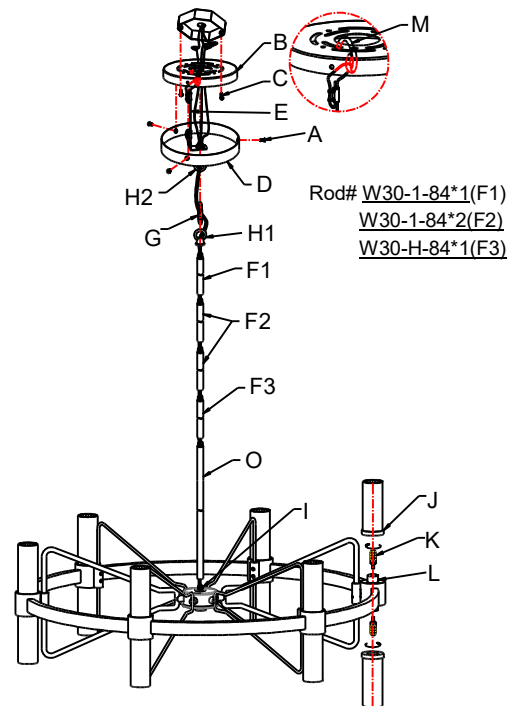

Fig. 3
CONNECTING THE WIRES (Fig. 3)
8. Connect the electrical wires as shown in fig.3, making sure that all wire connectors are secured. If your junction box has a ground wire (green or bare copper), connect the fixture's ground wire to it. Otherwise, connect the fixture's ground wire directly to the mounting plate (B) using the green screw provided. After wires are connected, tuck them carefully inside the junction box.